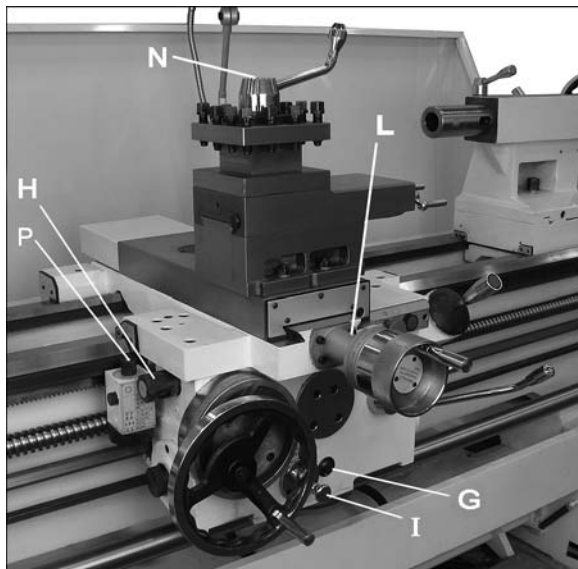
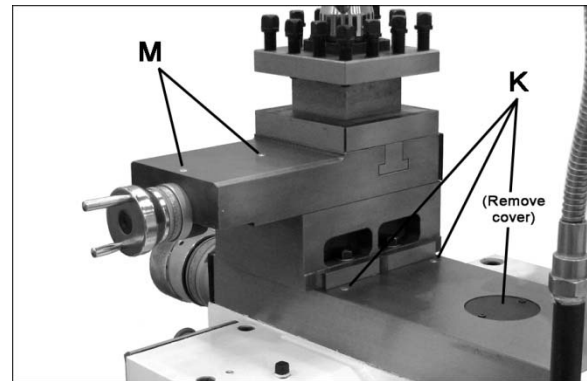

Figure 12 – Lubrication points
Figure 13 – Lubrication points
7. **Apron** – Oil must be between indicator marks in the oil sight glass (G, Figure 12). Top off with SAE 20W oil. Unscrew oil plug (H, Figure 12) to fill. To drain, remove drain plug on the underside of apron. Drain oil completely and refill after the first three months of operation. Then, change oil in the apron annually.
One-shot Lube System: Pull knob (I, Figure 12) and hold for several seconds to allow oil to fill the pump from the apron reservoir. Then release the knob which will push the oil through various oil lines to lubricate the ways below the saddle. Perform this several times daily.
8. **Threading Dial** – Frequently lubricate via one ball oiler (P, Figure 12) on top of the dial with SAE 20W oil.
9. **Cross Slide** – Daily lubricate one ball oiler on the handwheel housing (L, Figure 12) and three ball oilers on the platform (K, Figure 13), with SAE 20W oil.
11. **Compound Rest** – Daily lubricate two ball oilers (M, Figure 13) on top of compound rest with SAE 20W oil.
12. **Tool Post** – Regularly clean dirt and coolant from around the tool post to maintain its re-positioning accuracy. Daily lubricate one ball oiler on top the clamping hub (N, Figure 12) with SAE 20W oil.